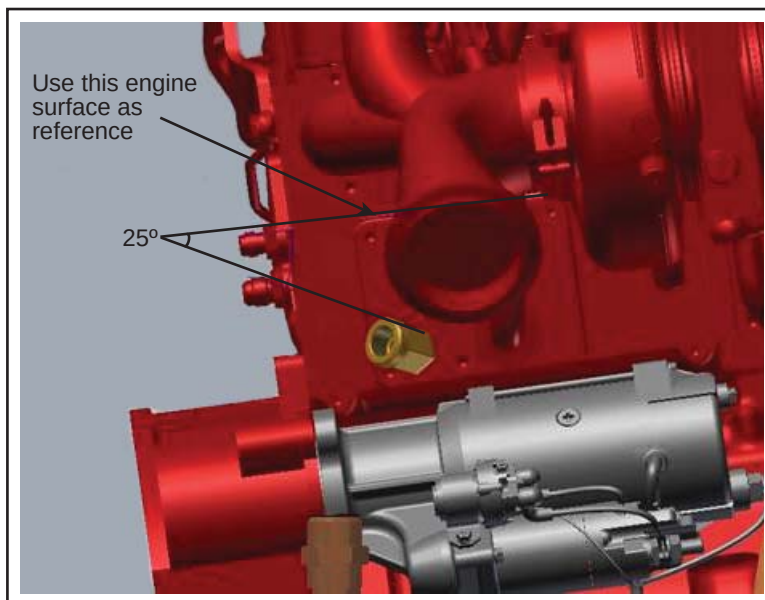

Figure 5 - Correct Position of the 45° Elbow
- 1.9. Position the 45° elbow at a 25° angle, using a protractor. See Figure 5.